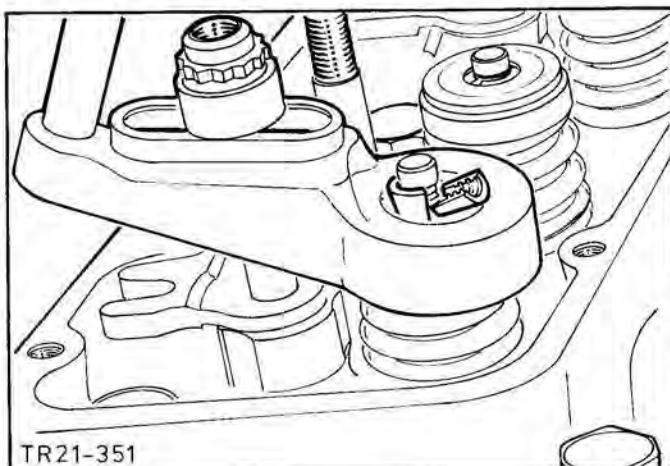

Fig.90. Removing valve springs with special tool 21-056.
3. Remove valve springs and spring retainers with special tool 21-056, Fig.90. Remove valve stem seals and take out valves.